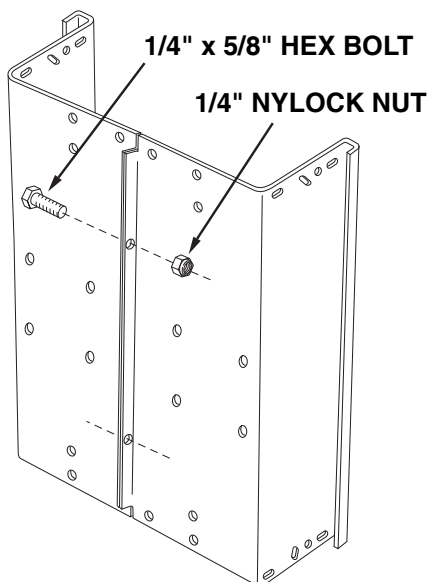

FIGURE 2
3. Position cart body halves upright on a smooth level surface such as a garage floor or a paved driveway. See figure 2.
4. Assemble halves together using two 1/4" x 5/8" hex bolts and 1/4" nylock nuts as shown in figure 2. **Do not tighten.**